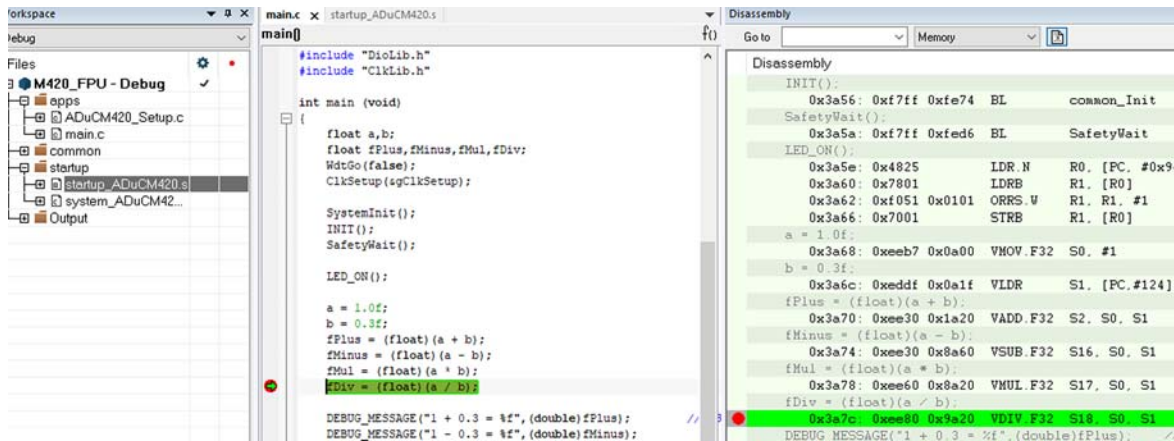

Figure 27. IAR FPU Example Program Output
- After setting the **Floating point settings** options, run the FPU example program. Running the debug mode causes the **Output** section in the **Terminal I/O** window to display fractional values of the variables, as shown in Figure 27.